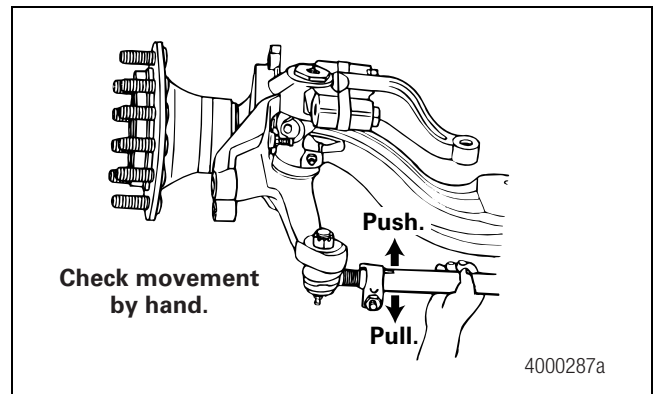

Figure 6.23
- Apply hand pressure of approximately 100 lbs (45.4 kg) in a vertical PUSH and PULL motion several times. Check for any movement or looseness at both tie rod ends. Figure 6.23.
When the roadside check indicates tie rod movement of 0.125-inch (3 mm) or more, immediately remove the vehicle from service to replace the tie rod. Figure 6.23.